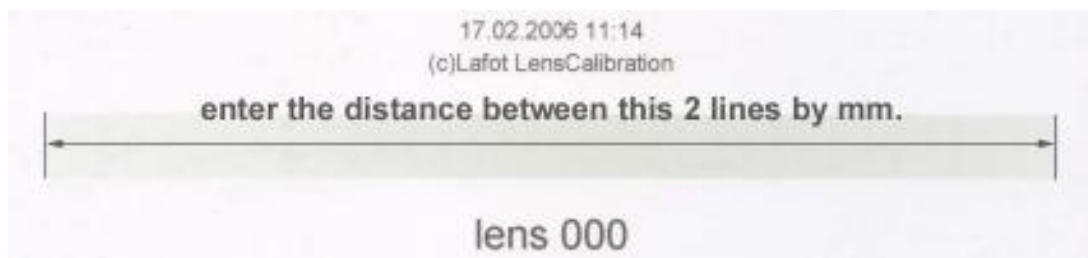

Fig 2.9.2
- After the test prints comes out, pick up the test print for lens 000 first, measure the distance between lines with a ruler as Fig 2.9.2: